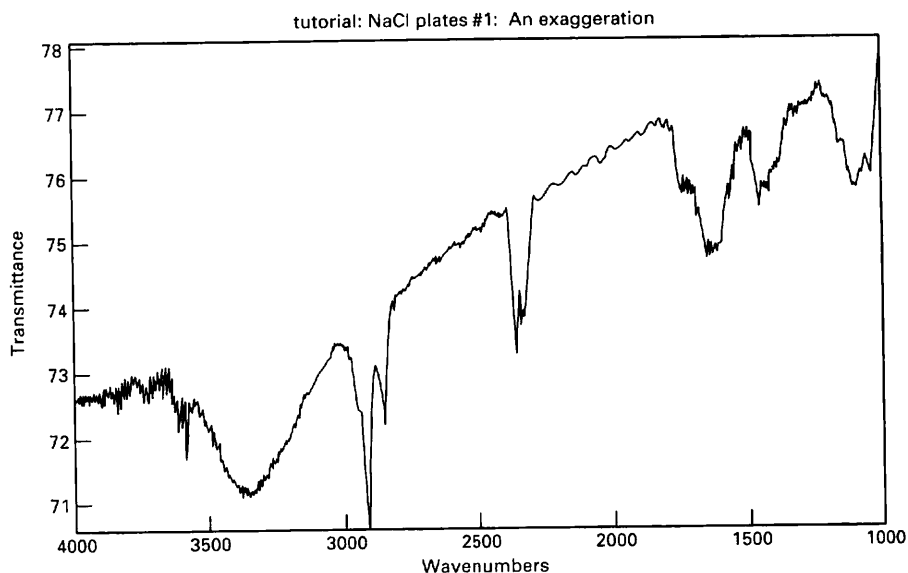
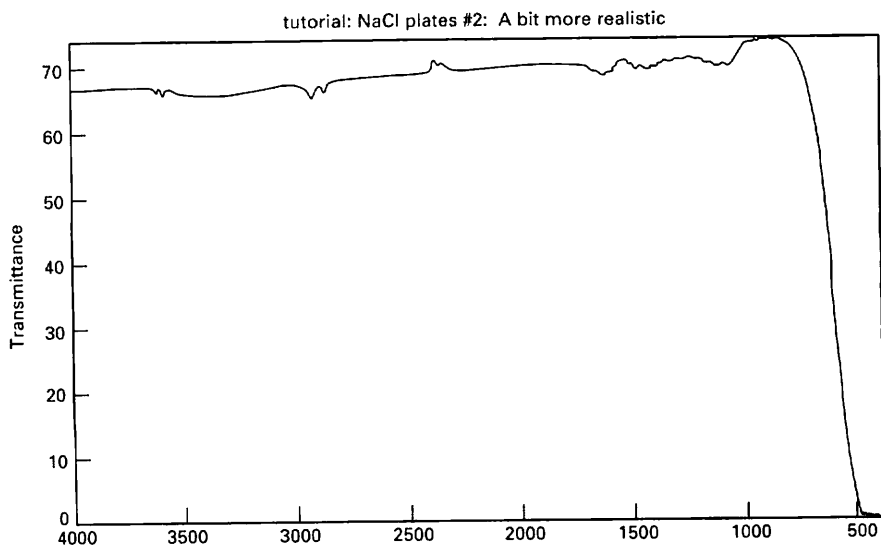

Fig. 167 Salt plate spectrum transmittance trick.
Fig. 168 Salt plate spectrum with some sanity restored.
4. **The FTIR computer programs automatically scale the spectrum.** So you don't have to set the zero and 100%. Unfortunately, the scaling is mindless, and you can be fooled if you're not careful. Figure 167 could possibly be an organic acid. See the broad hydrogen bonded OH peak at about 3400 cm^{-1} (The consequences of not marking the exact frequency with the computer program should be evident now.) But the $\text{C}=\text{O}$ at 1750 cm^{-1} isn't as strong as it should be and Fooled ya! Look at the transmittance scale on the left hand side. It only goes from 70 to 76%. This is a spectrum of some student-abused salt plates and these huge peaks and bands are actually tiny wiggles (Figure 168.). The computer program mindlessly took the maximum and minimum wiggling in the spectrum and decided to give it to you at full-screen height.